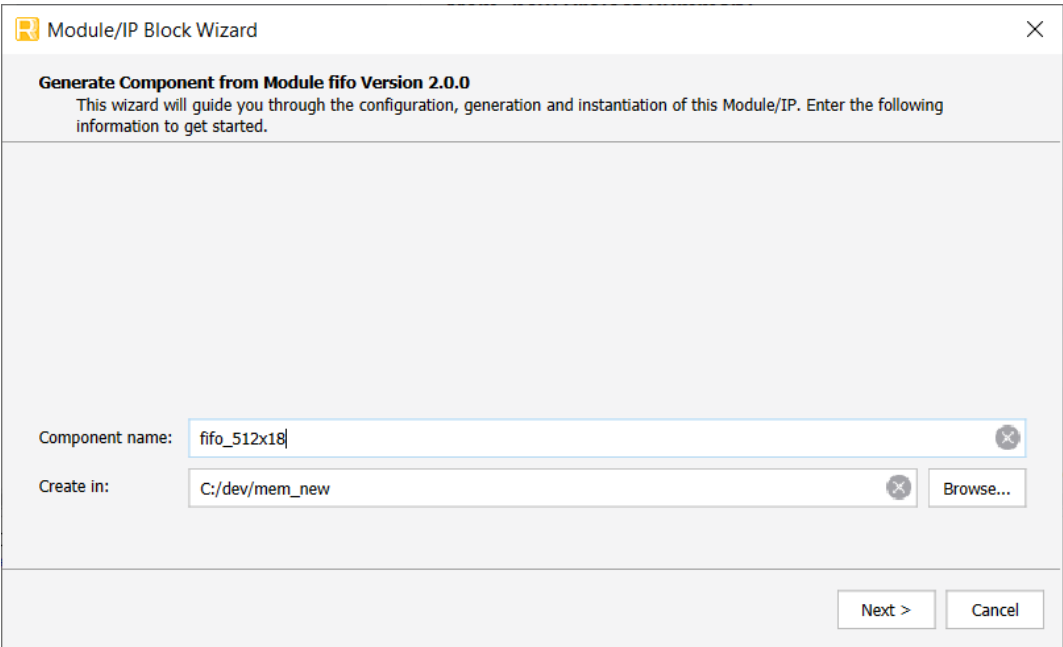

Figure 3.2. Example: Generating FIFO Using Module/IP Block Wizard
2. The **Module/IP Block Wizard** opens as shown in Figure 3.2. Enter values in the **Component name** and the **Create in** fields then click **Next**.
- Click the **Finish** button. All the generated files are placed under the directory paths in the **Create in** and the **Component name** fields shown in Figure 3.2.